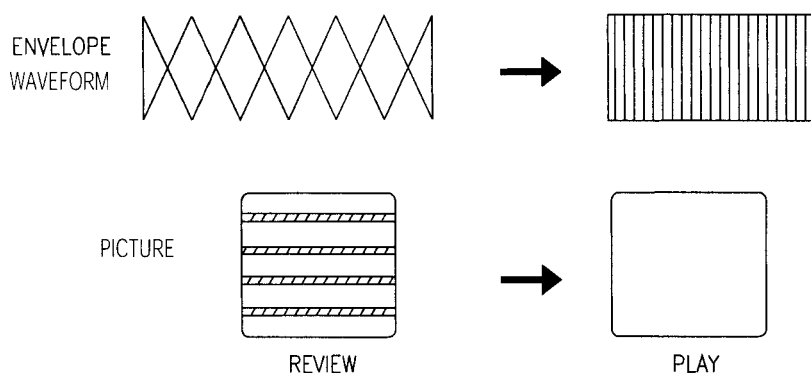

Fig. 5-10 CHECK OF TRANSITIONAL OPERATION (FROM REVIEW WAVEFORM TO PLAY WAVEFORM)
I. REVIEW to PLAY (See Fig. 5-10)